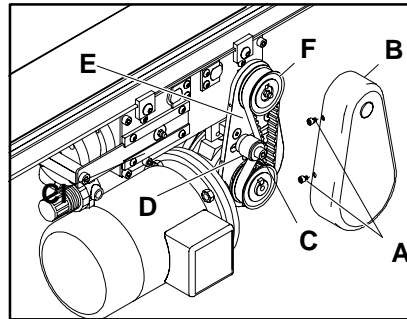

Figure 8
Remove the screws (A of Figure 8) securing the belt guard (B) to the back guard plate.
Remove the outboard drive shaft with the timing belt pulley (F of Figures 8 & 9). Refer to the procedures under the "Removal" subtopic described under the "Outboard Drive Shaft Replacement" topic on page 8.